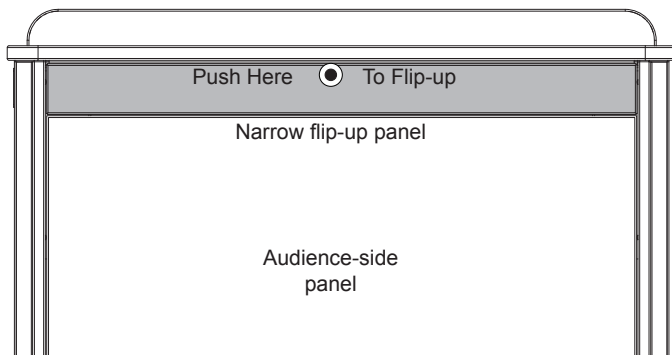

Figure 3A
1. Push in the top of the narrow flip-up panel to access the locks. (Do not pry open this panel). **Figure 3A.**